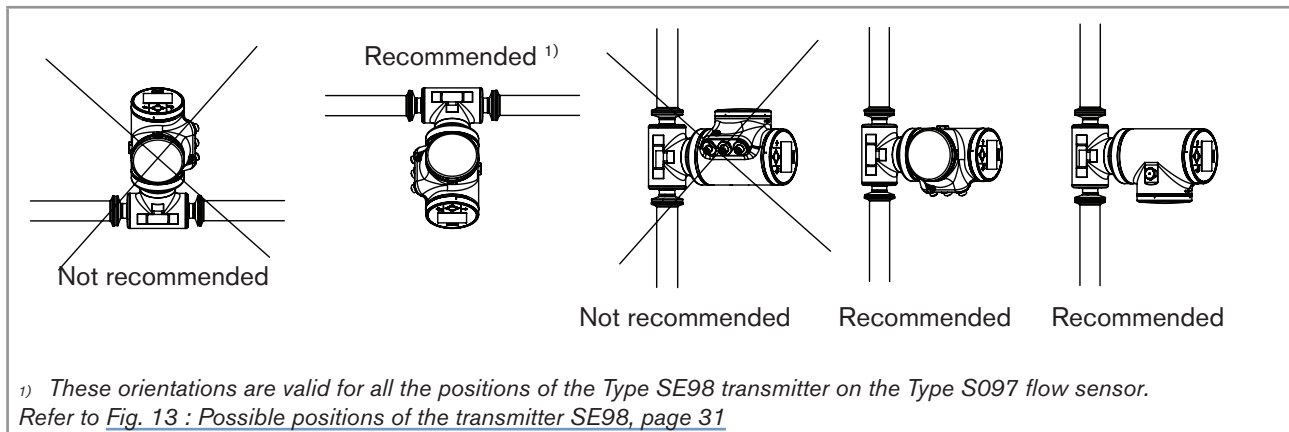

Fig. 17 : Orientation of an Ethernet version of the device to permit the heat dissipation
- To make sure the internal temperature of the transmitter does not exceed the authorized maximum value, install an Ethernet version of the device as recommended in Fig. 17.